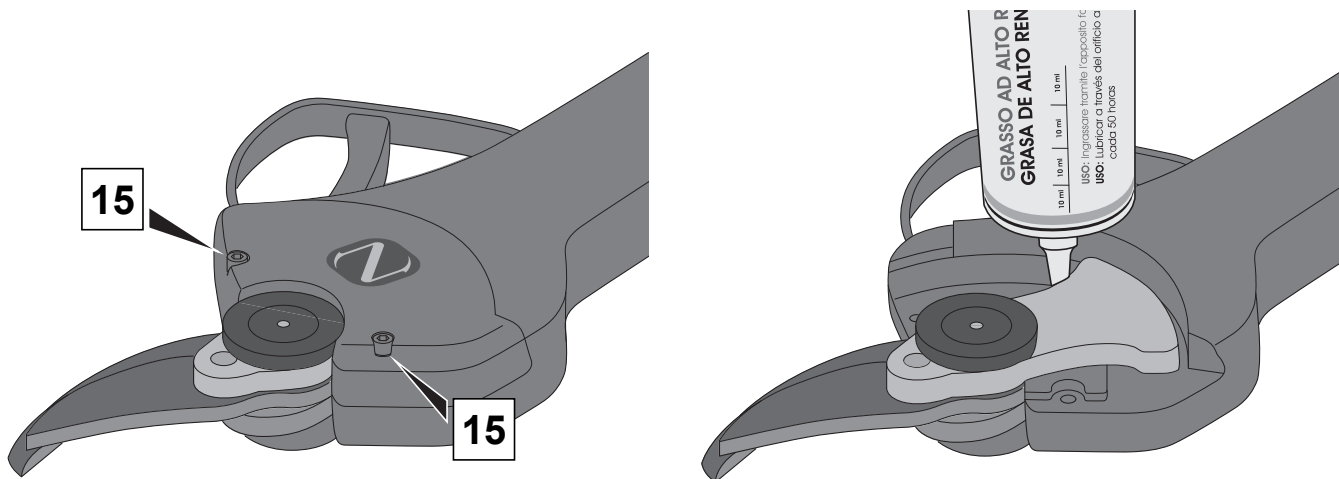

Fig. 9
Every 50 working hours lubricate the blade gears (see **fig. 9**) following the instructions below:
- Lubricate the point shown in **fig. 9** with a small quantity of grease (type RETINAX HD2).